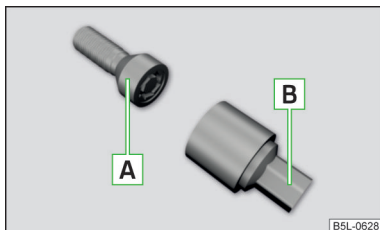

Fig. 136
The anti-theft wheel bolts protect the wheels from theft. These can only be loosened or tightened with the use of adapter **B** » Fig. 136.
- > Insert adapter **B** » Fig. 136 with the toothed side all the way into the inner teeth in the head of the anti-theft wheel bolts **A**.